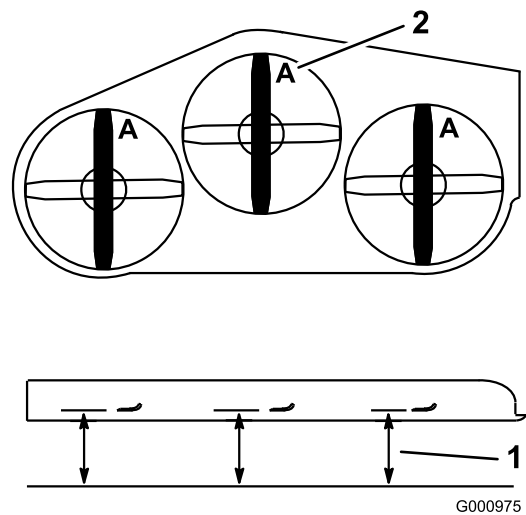

Figure 82
3. With the machine on level surface, position one blade front-to-rear. Measure at **A** and from level surface to the cutting edge of the blade tips (Figure 82).